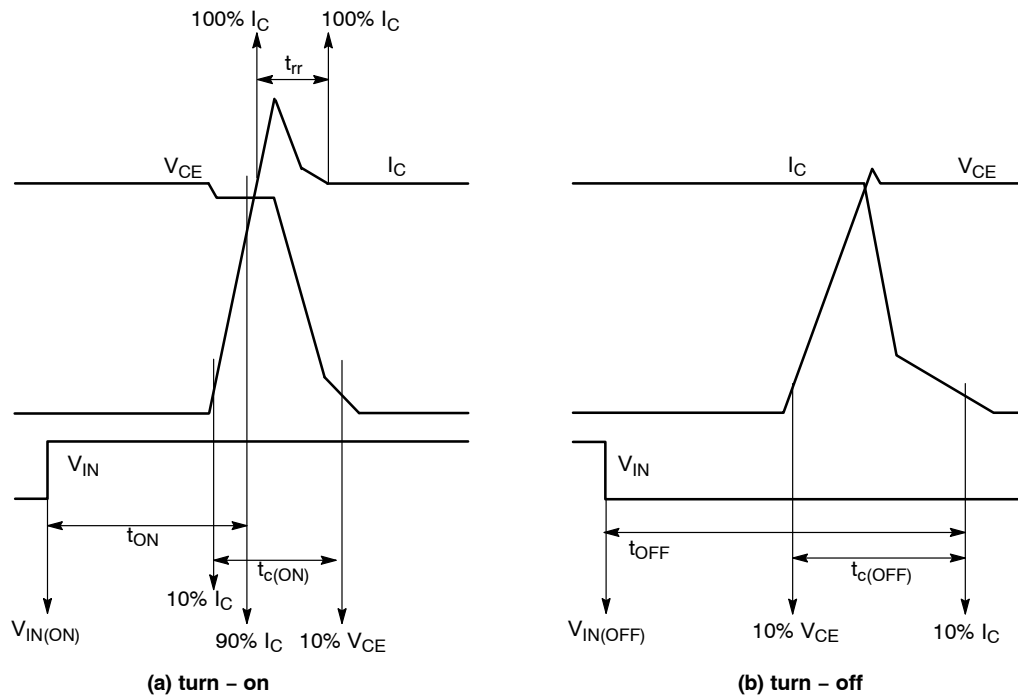

Figure 4. Switching Time Definition
6. tON and tOFF include the propagation delay time of the internal drive IC. tC(ON) and tC(OFF) are the switching time of IGBT itself under the given gate-driving condition internally. For the detailed information see Figure 4.